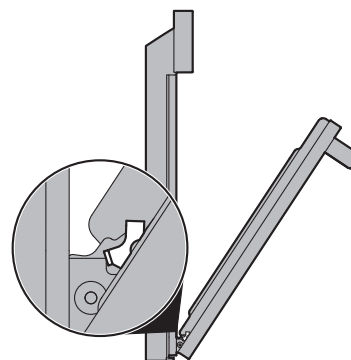

Figure 23: Removal position
3. Grasp the door by the sides, and close the door until the door frame makes contact with the unlocked hinges (Figure 23).
2. Hold the oven door at the same angle as the removal position (Figure 23). Carefully insert the hinge levers into the oven frame until you feel the hinge levers are seated into the hinge notches. The hinge arms must be fully seated into the hinge notches before the oven door can be fully opened.